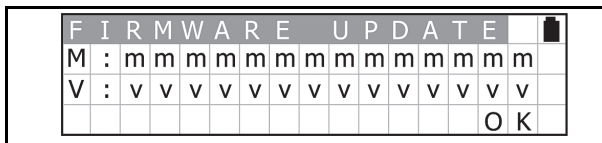

Figure 13 Download Waiting Screen
- Press the OK Key  to begin the Software download (See Figure 13). Press the CLR Key  to return to the previous File Selection Screen.